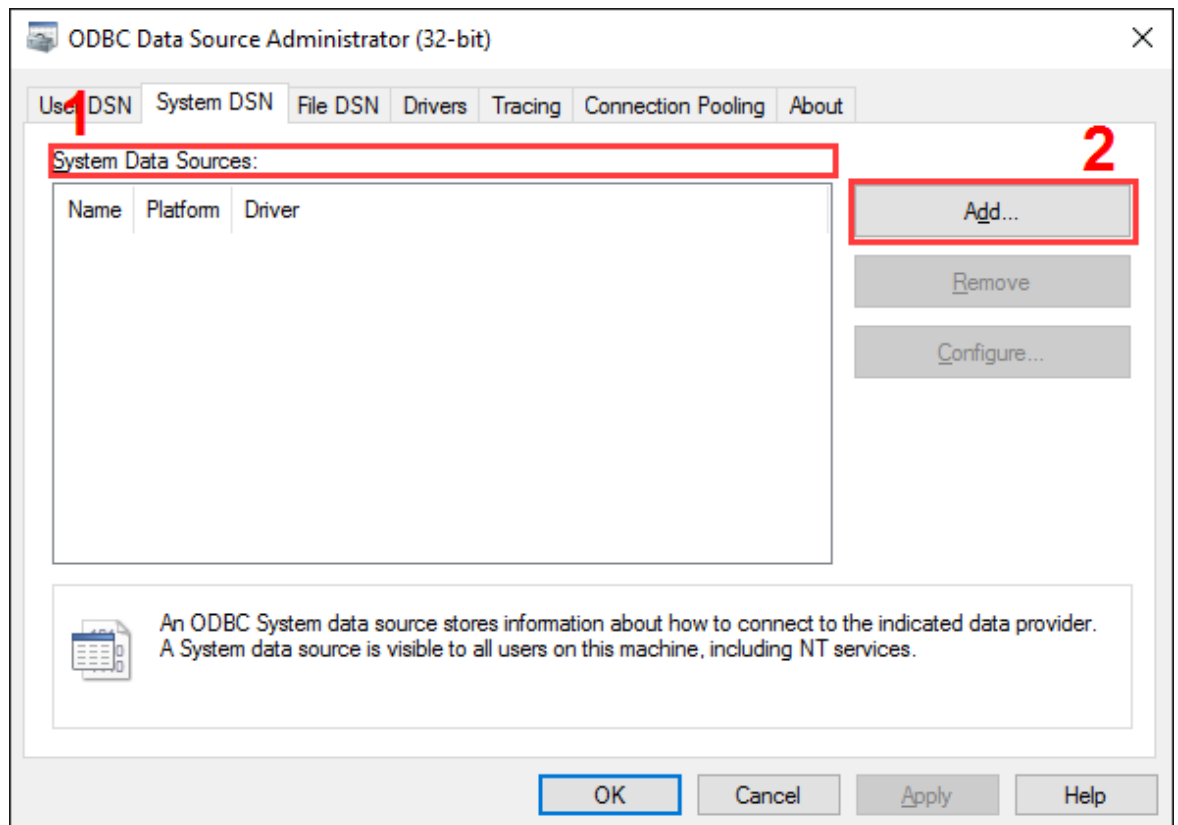

Figure 1. Data source administrator
1. Switch to the "System DSN" tab and click the "Add" button (Figure 1).